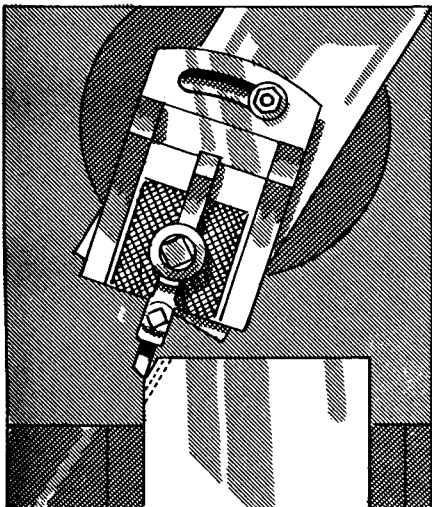

FIG. 420
7. Feed the tool down a few thousandths at a time for each cut until the tool stops cutting (Fig. 420).
4. Adjust the tool and the tool holder so that the tool makes an angle of 5° or less with the angular surface, and so that the tool holder and tool slide will have clearance when the tool is at the lower edge of the cut (Fig. 420).